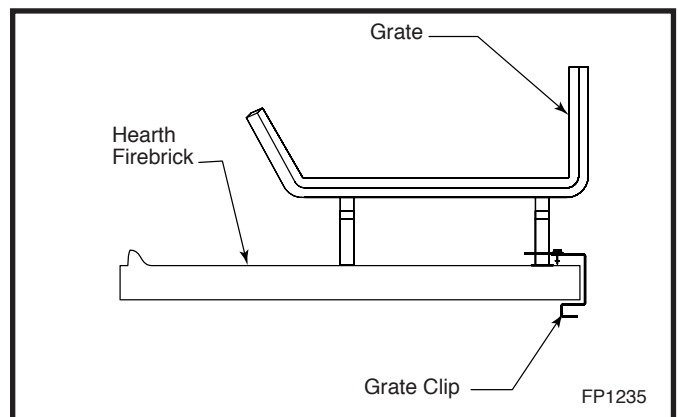

Fig. 12 Hearth firebrick in place in grate clip.
6. Slide the hearth firebrick into the grate clip. (Fig. 12) The grate will be used as a handle to set the hearth firebrick in place.